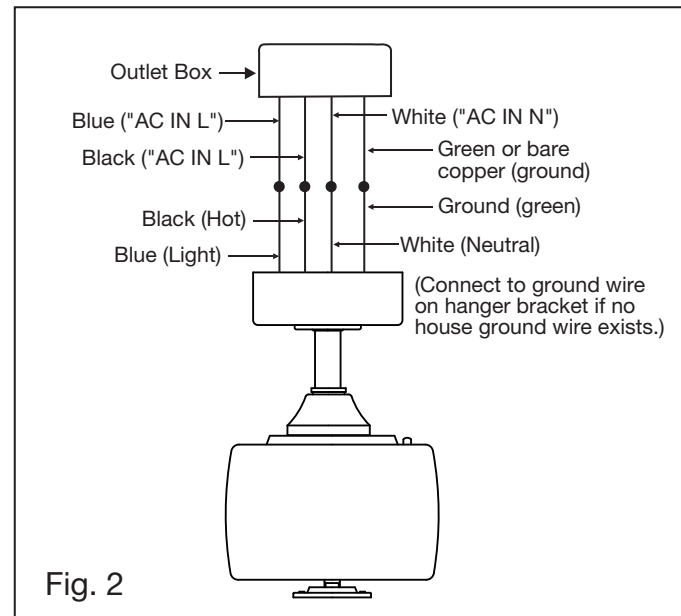

Fig. 2
- 3 Connect the neutral fan (white) wire to the white neutral household wire (Figure 2).